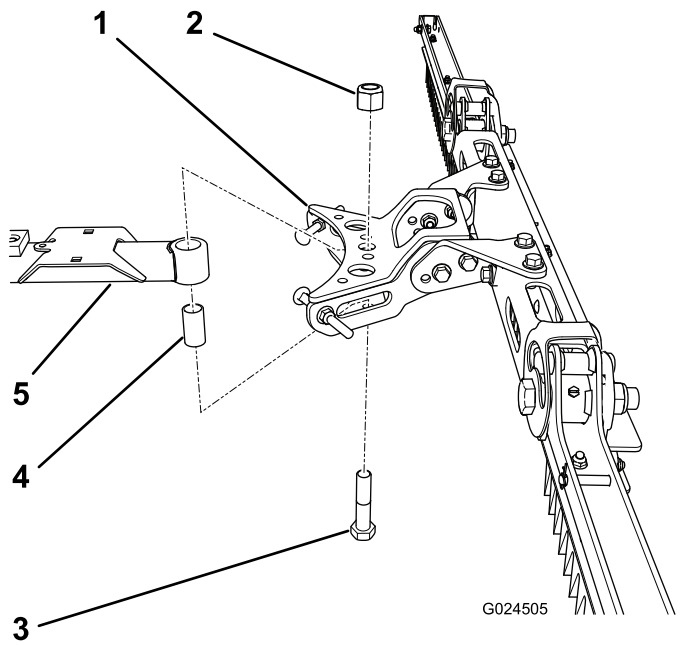

Figure 7
1. Insert a long spacer into the hole in the rear of the drawbar (Figure 7).